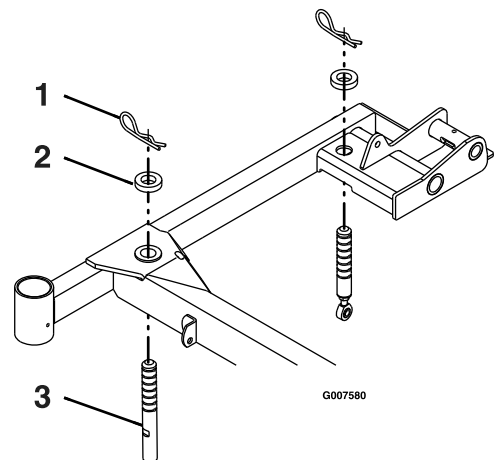

Figure 61
3. Verify that all hairpin cotters are in the 7.62 cm (3 inch) mower-deck-height holes with the spacers under the hairpin cotters (Figure 61).
4. Shorten or lengthen each mower deck support pin to obtain blade tip height of 7.62 cm (3 inches) at the front of the deck and 8.26 cm (3 1/4 inches) at the rear of the deck (Figure 61).